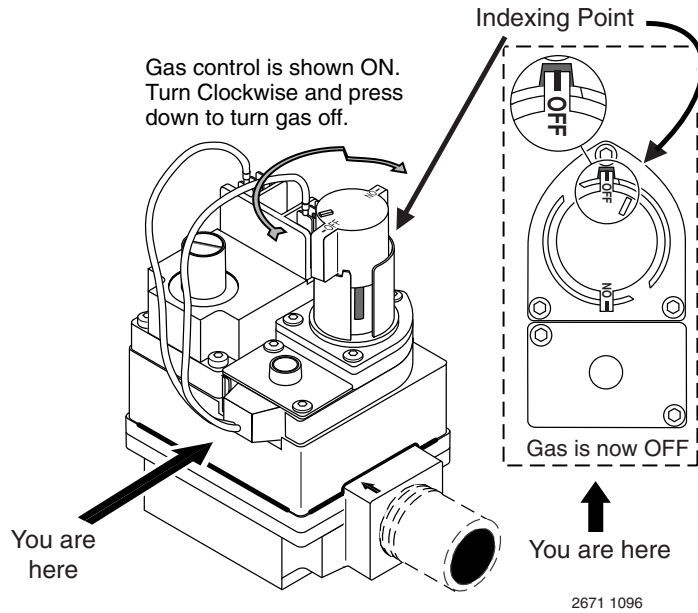

FIGURE 4: Turning Gas Control OFF
- Turn the knob on the gas control clockwise (↻) to the black line, depress slightly, and turn to "OFF" position. See Figure 4.